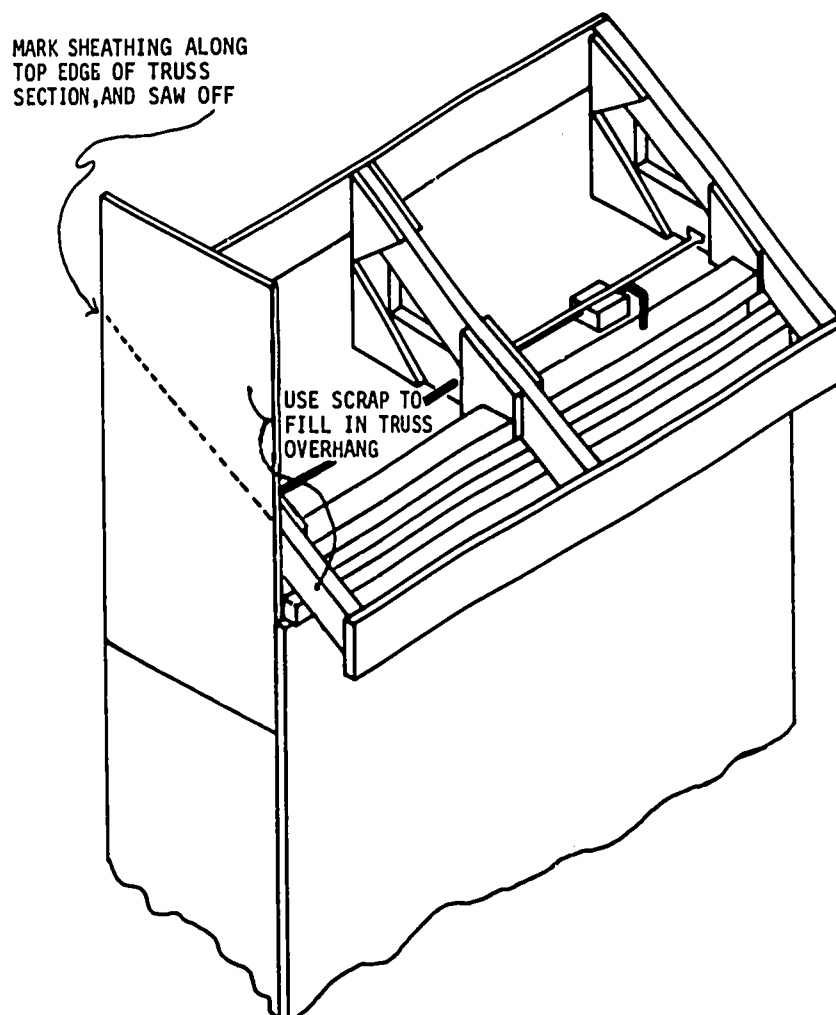

Fig. 56-6. Sheathing Pieces in Position
sheathing in place above the first piece so that the edges butt together. See Fig. 56-6.
4. Mark the upper piece of sheathing along the top edge of the truss section as in Fig. 56-6.